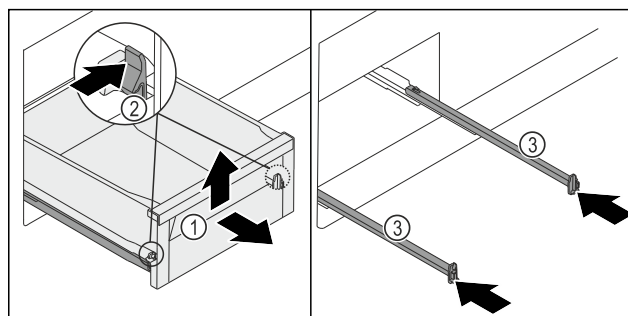

Fig. 124
- Pull out the drawer Fig. 124 (1) as far as it will go.
- Press the left and right clamp Fig. 124 (2) inward at the same time.
- The drawer Fig. 124 (1) is released from the rails.
- Lift up the drawer Fig. 124 (1) at the front.
- Remove the drawer Fig. 124 (1) from the front.
- Push in the rails Fig. 124 (3).